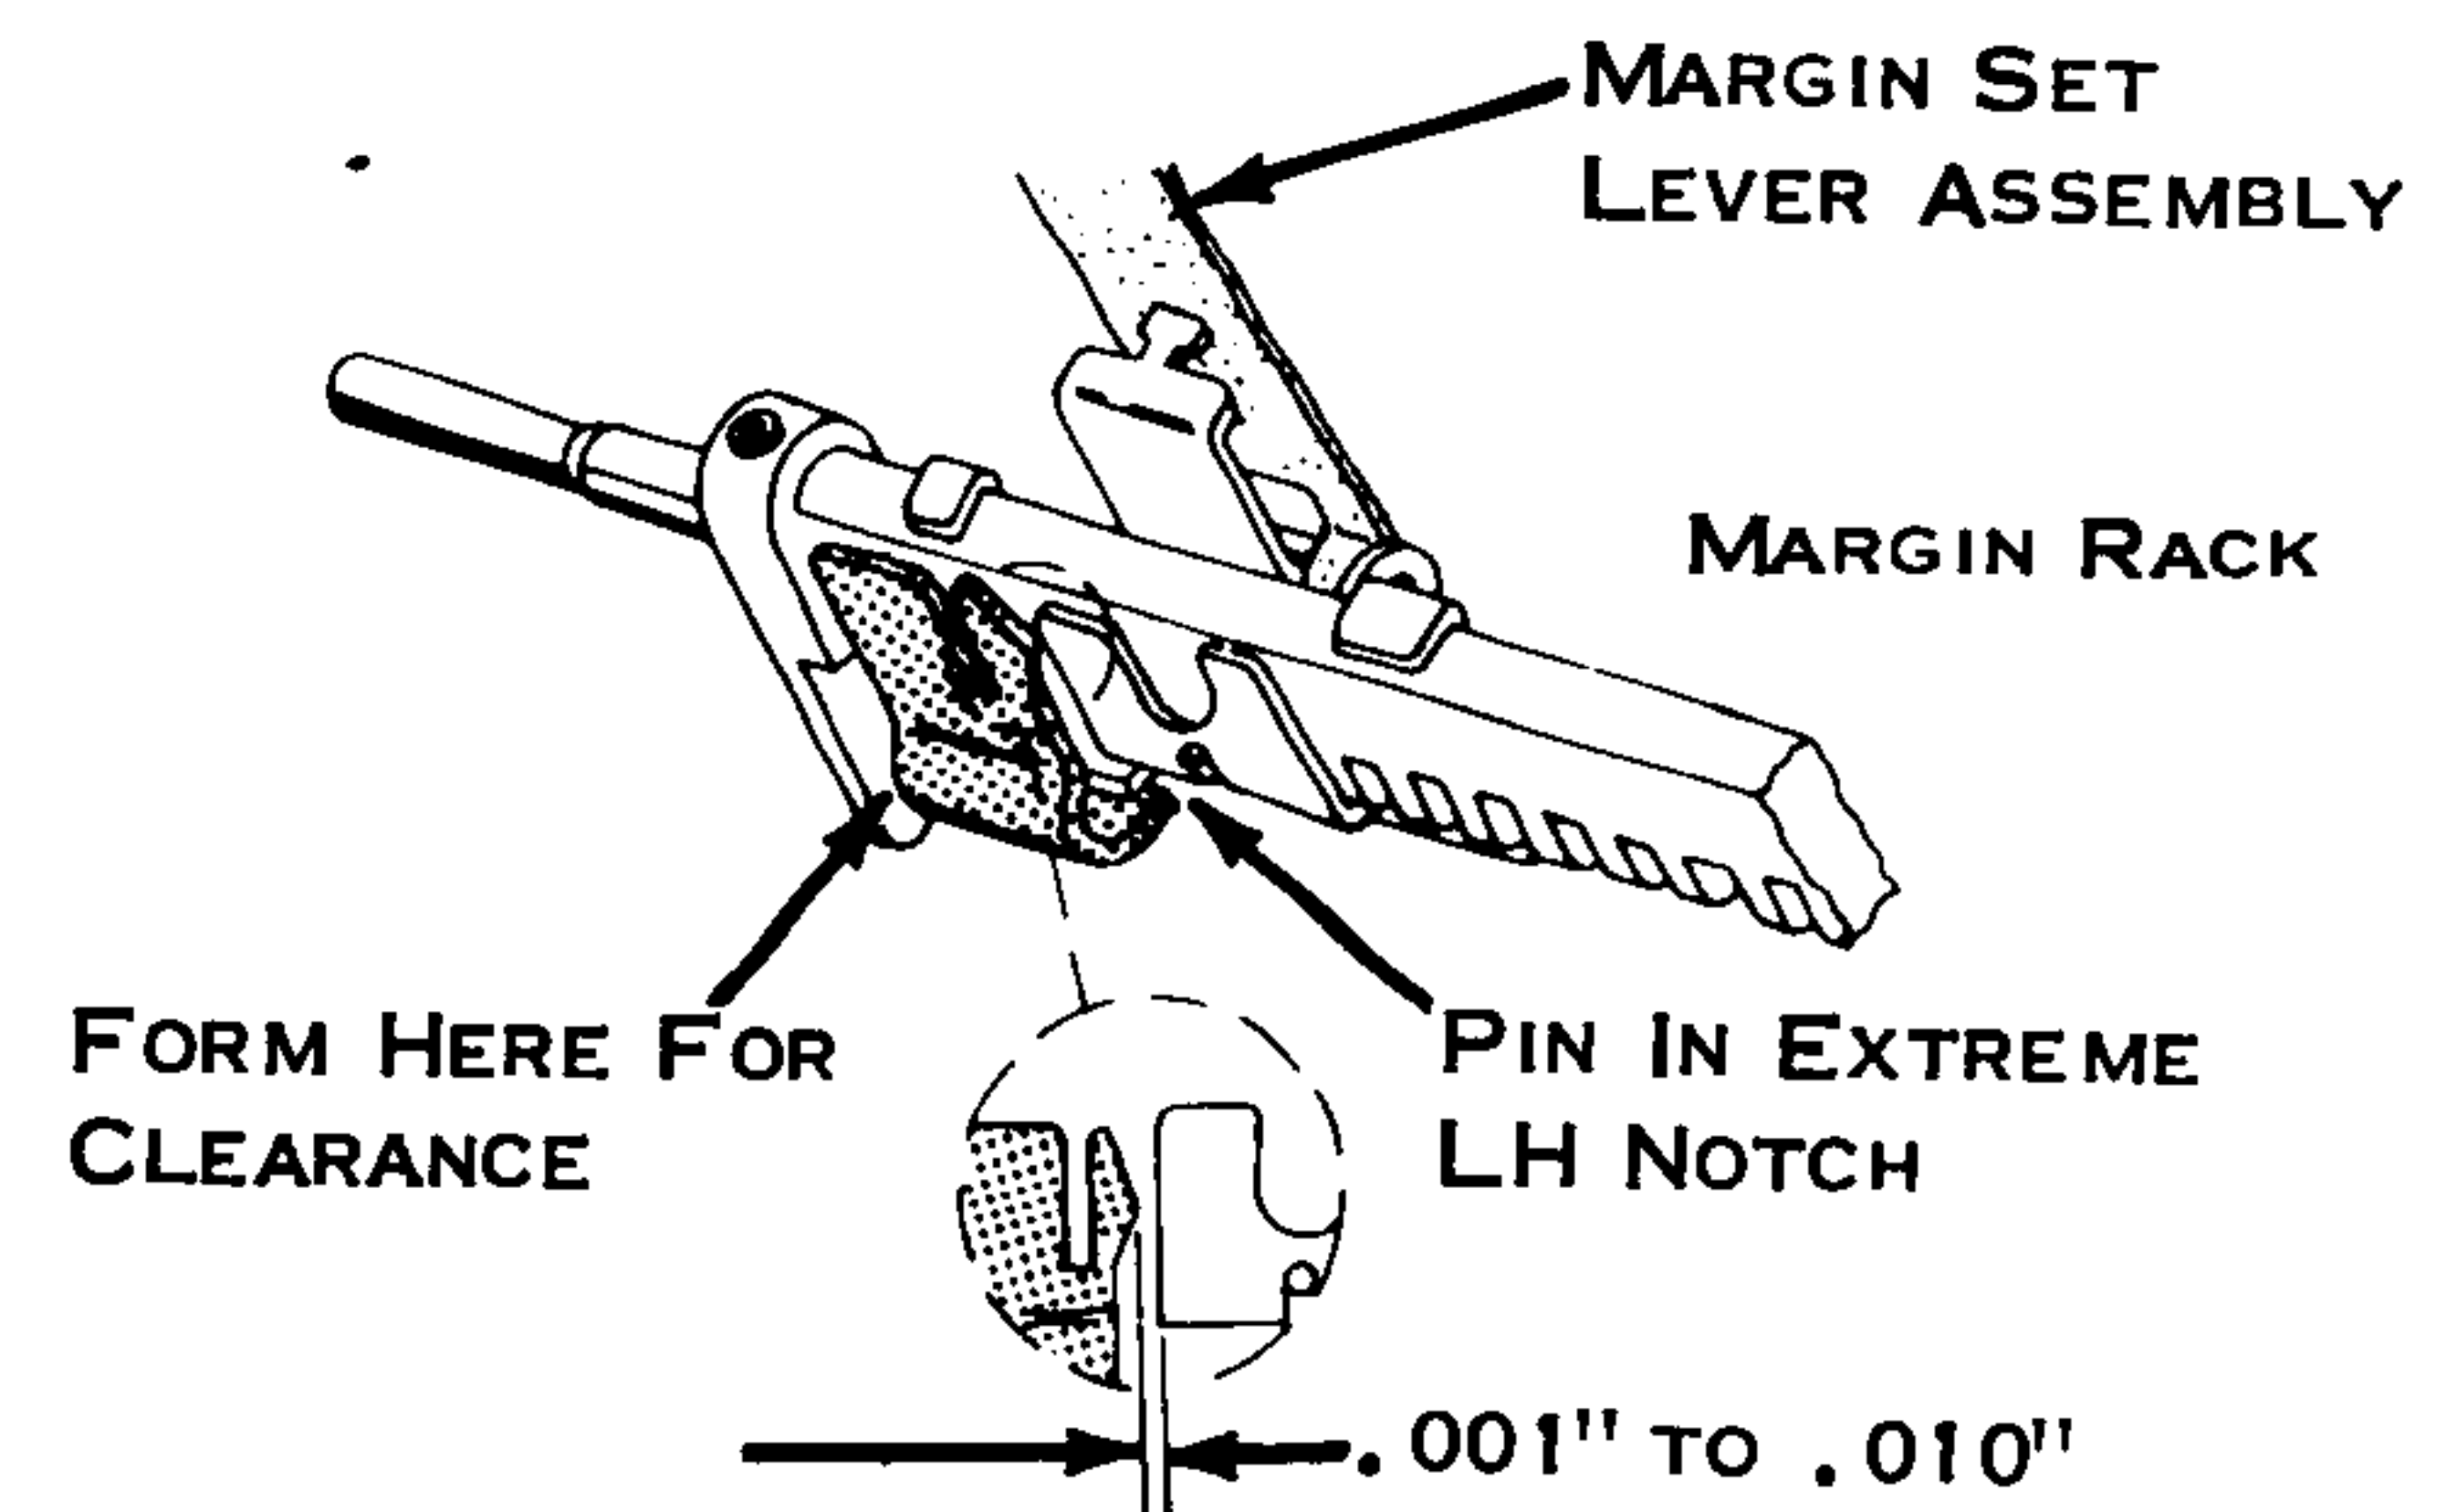

Figure 188. Margin Final Stop
- Margin Final Stop (Fig. 188) - The lug of the final stop should be adjusted to obtain a clearance of .001" to .010" between the final stop and the margin stop with the margin stop fully seated in the extreme left tooth of the margin rack.